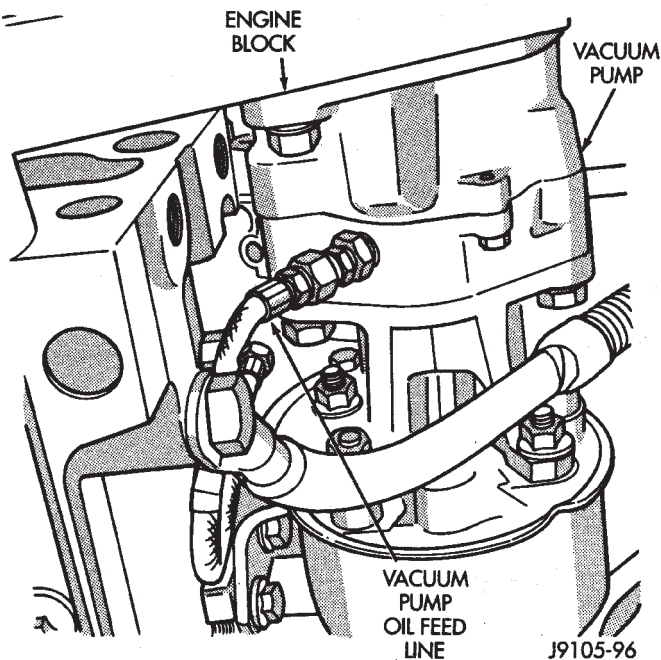

Fig. 107 Vacuum Pump Oil Feed Line
(5) Disconnect lubricating oil feed line from fitting at underside of vacuum pump (Fig. 107).